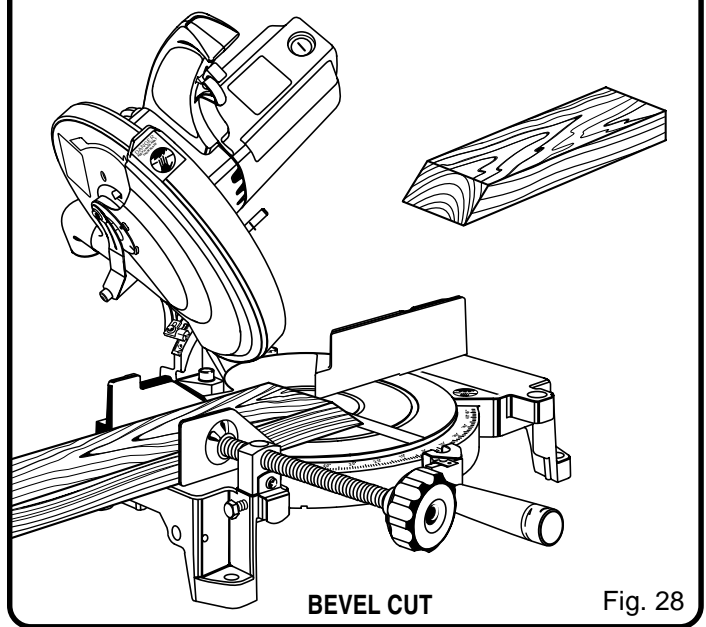

Fig. 28
- Slowly lower the blade into and through the workpiece. See Figure 28.